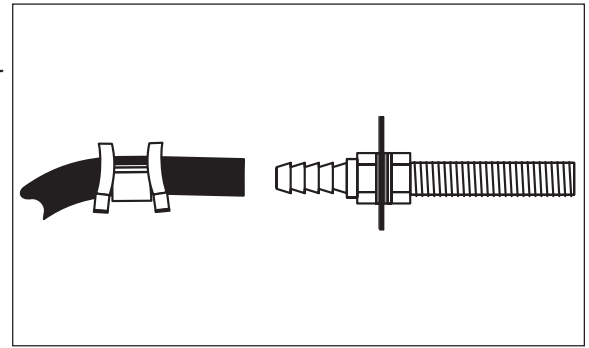

Figure 6
13. Slide air line clamp over the air line. Push air line onto fitting covering all barbs, with pliers slide the air line clamp forward until it fully covers the barbed section (Figure 6).
10. Slide a clamp onto the air line and push the air line over the fitting, covering all the barbs.(Figure 6)
11. With pliers slide the air line clamp forward until it fully covers the barbed section.(Figure 6)